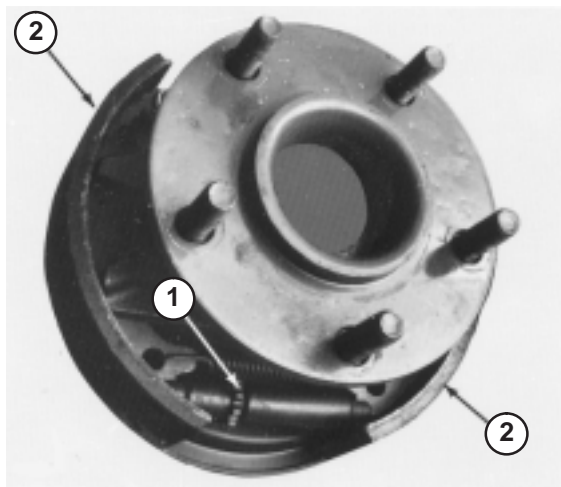

Figure 46
- Using a brake adjusting tool or screwdriver, rotate star nut (Fig. 45) down until brake drum (Fig. 46) locks because of outward pressure of brake shoes (Fig. 46).